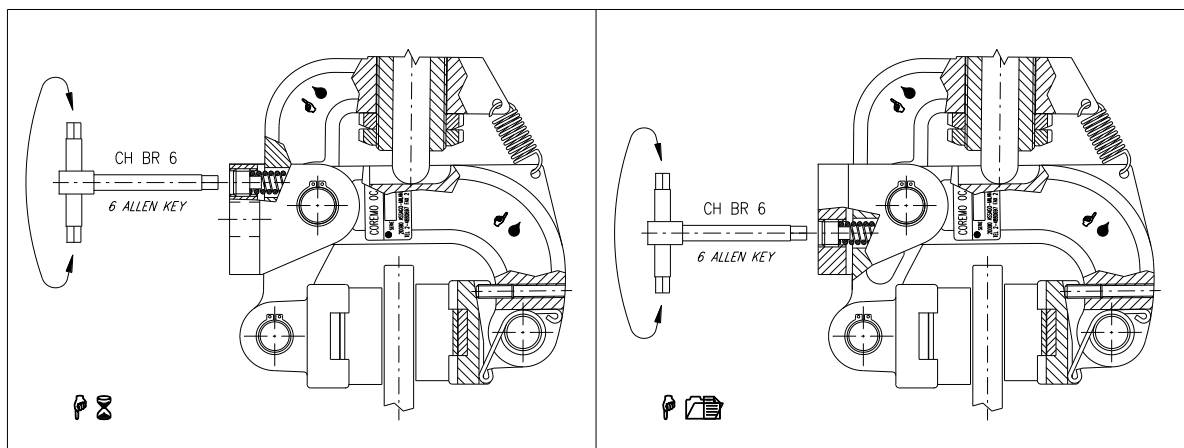

Figure 2
- Only for H6 and H12 brakes:** Adjust the grub screw C61131 located in the mounting bracket using a n.6 Allen key as indicated in Figure 2, to balance the weight of the thruster correctly in the H6 or H12 position.
2. Screw back the grub screw C61131 and balance the brake as shown in Figure 2.